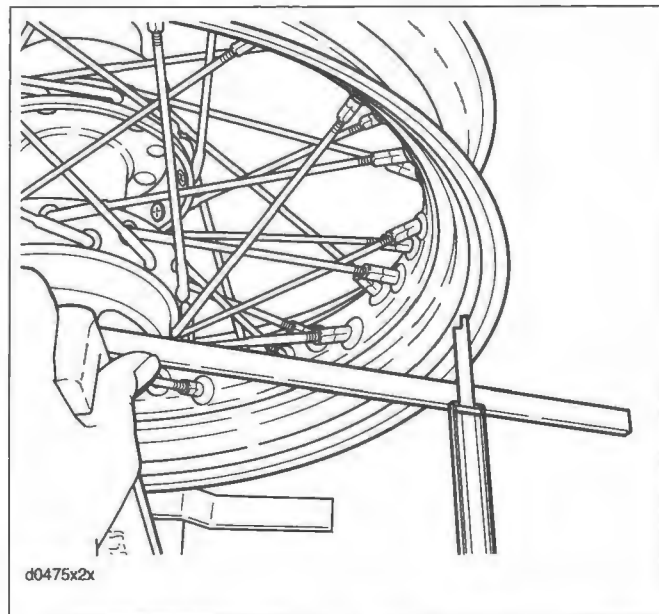

Figure 2-41. Check Laced Hub Offset Dimension (Rear Wheel Shown)
3. See Figure 2-41. Place wheel in WHEEL TRUING STAND (Part No. HD-95500-80). Tighten arbor screws so hub will turn on its bearings.